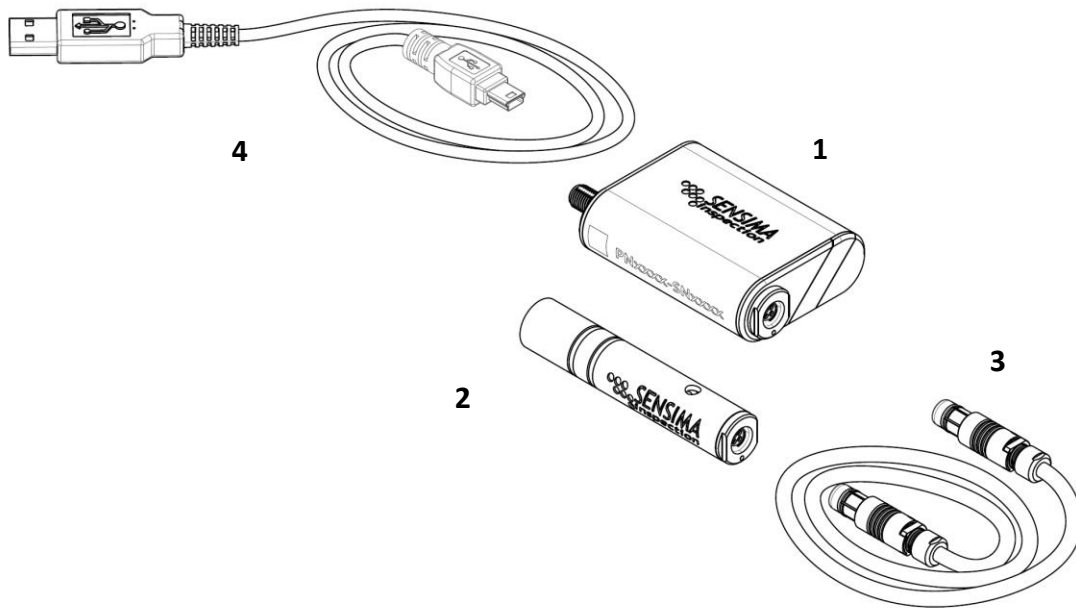

Figure 1: Partial content of the UPEC inspection kit. The waterproof carrying case, the USB key and the tablet are not shown
- (2) EC probe
- (3) Probe cable with Fischer 4-pin connectors to connect the probe to the UPEC tester
- (4) USB cable to connect the UPEC tester to the tablet or a PC (not shown in Figure 2, see Figure 1)
- (13) USB key with drivers, software and electronic documentation allowing an optional installation on another PC